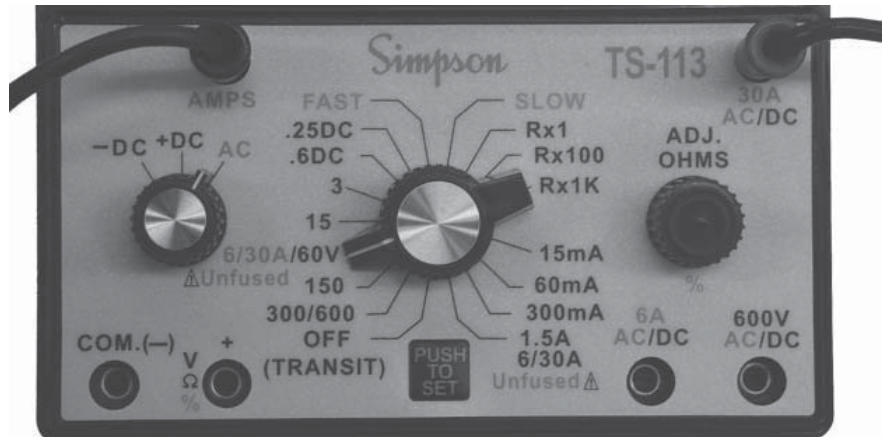

Figure 4. Measuring AC Current
- Set range switch to the orange colored “6/30A /60V” as shown in Fig. 4.
- Connect black marked lead into “AMPS” jack, and the red marked lead into “6A” or “30A” jack as shown in Fig. 4. (When in doubt, first select the “30A” jack.)
- Set the range selector to “Rx1” for resistance less than 100W, “Rx100” for resistance less than 10,000W, or “Rx1K” for higher values. Refer to Figure 4. Observe correct polarity when checking DC circuit components.
- Connect black lead to the “-” (COM) jack and the red lead to the “+” (Ω V %) jack. See Figures 4 & 5.